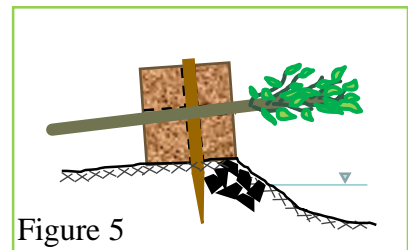

Figure 5
3. Drive anchor stakes through the holes in the top surface of the BioD-SuperLog™. It is recommended to use at least three anchor stakes (Figure 5 & 6).
4. Insert live plant cuttings through the exposed holes on the sides of the BioD-SuperLog™. If there are unused holes on the top surface, they too may be used to insert live plant cuttings (Figure 5 & 6).